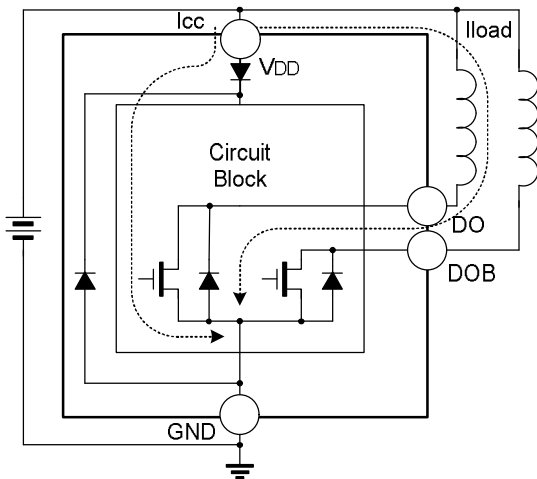

Fig.2 Normal working state
2. Figure 2 is the normal working state, the current compose I_{CC} and I_{load} , power dissipation $PC = V_{DD} * I_{CC} + V_o * I_{load}$, Where V_o is the output voltage when DO or DOB turn on; It is need to be careful not to exceed its maximum power dissipation value dule to change of power supply voltage V_{DD} and the coil current I_{load} .